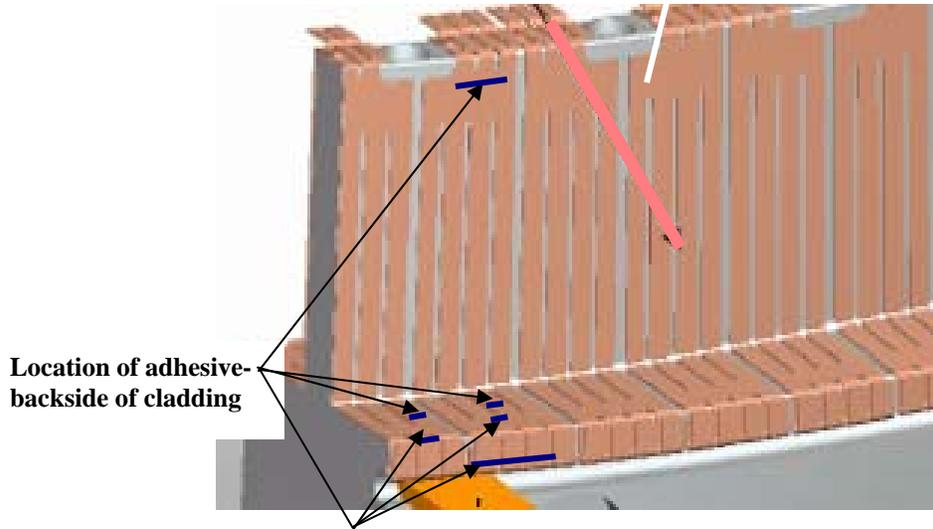

Figure 25- Installation of Cladding
- Apply a minimal quantity [drop] to the back of the cladding at the top bend and on the back of the outside fingers of the strip on the bottom. Evenly spread out the adhesive to a thin film avoiding any thick areas on the cladding. See Figure 25- Installation of Cladding for location of adhesive. Figure 26-Applying Adhesive to Vertical Cladding. Do not apply adhesive to the upper - sections of the cladding.
- Apply a minimal quantity [drop] to the back of the cladding at the edge bend and on the back of the outside fingers of the strip on the short leg of the cladding. Evenly spread out the adhesive to a thin film avoiding any thick areas on the cladding. See Figure 25- Installation of Cladding for location of adhesive. Figure 29- Applying Adhesive to Horizontal Cladding].